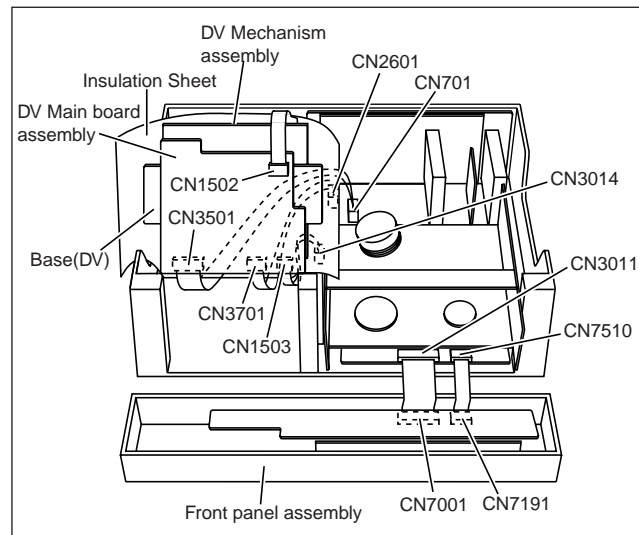

Fig. 1-8-2
- (1) Place an insulation sheet on the SW/Reg board assembly.
- (2) Place a DV section(Base(DV) with DV Mechanism assembly and DV Main board assembly) on the insulation sheet.(refer to Fig. 1-8-2)